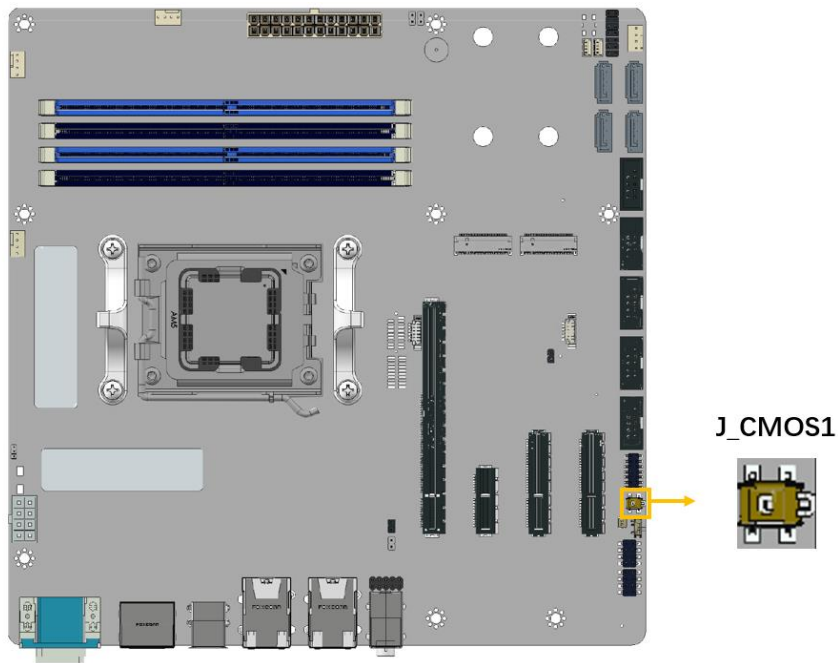

Figure 4-2: Clear CMOS Jumper Location
- CN Location:** See Figure 4-2